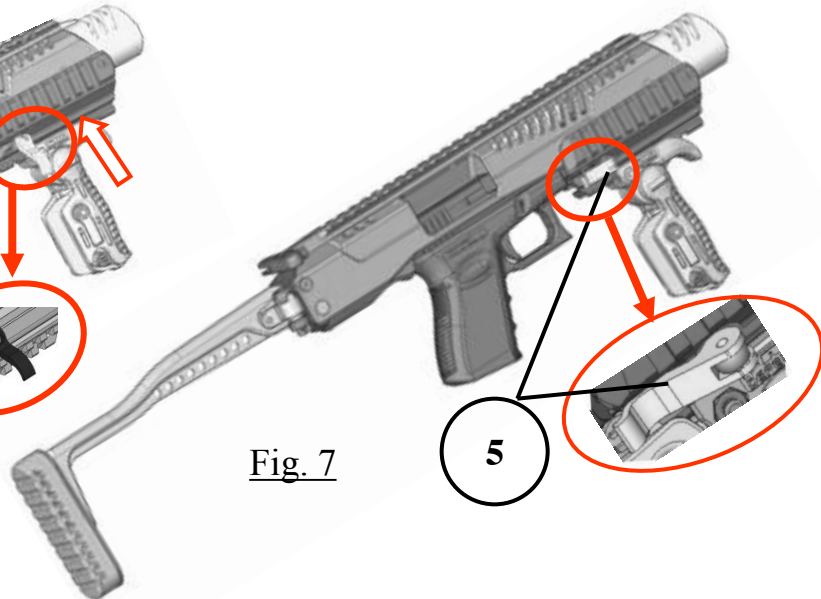

Fig. 7
Fasten your Glock by closing the Locking Lever (5) in horizontal position (Fig. 7).